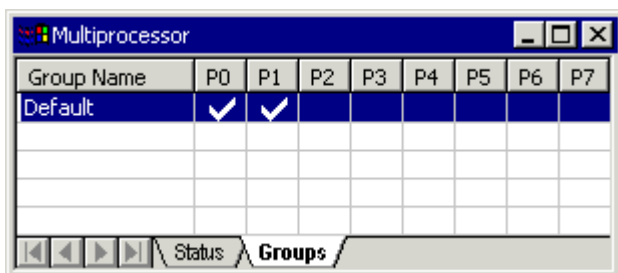

Figure 2-50. Multiprocessor Window: Groups Page
1. In the **Multiprocessor** window, click the **Groups** tab to display the **Groups** page, shown in Figure 2-50.